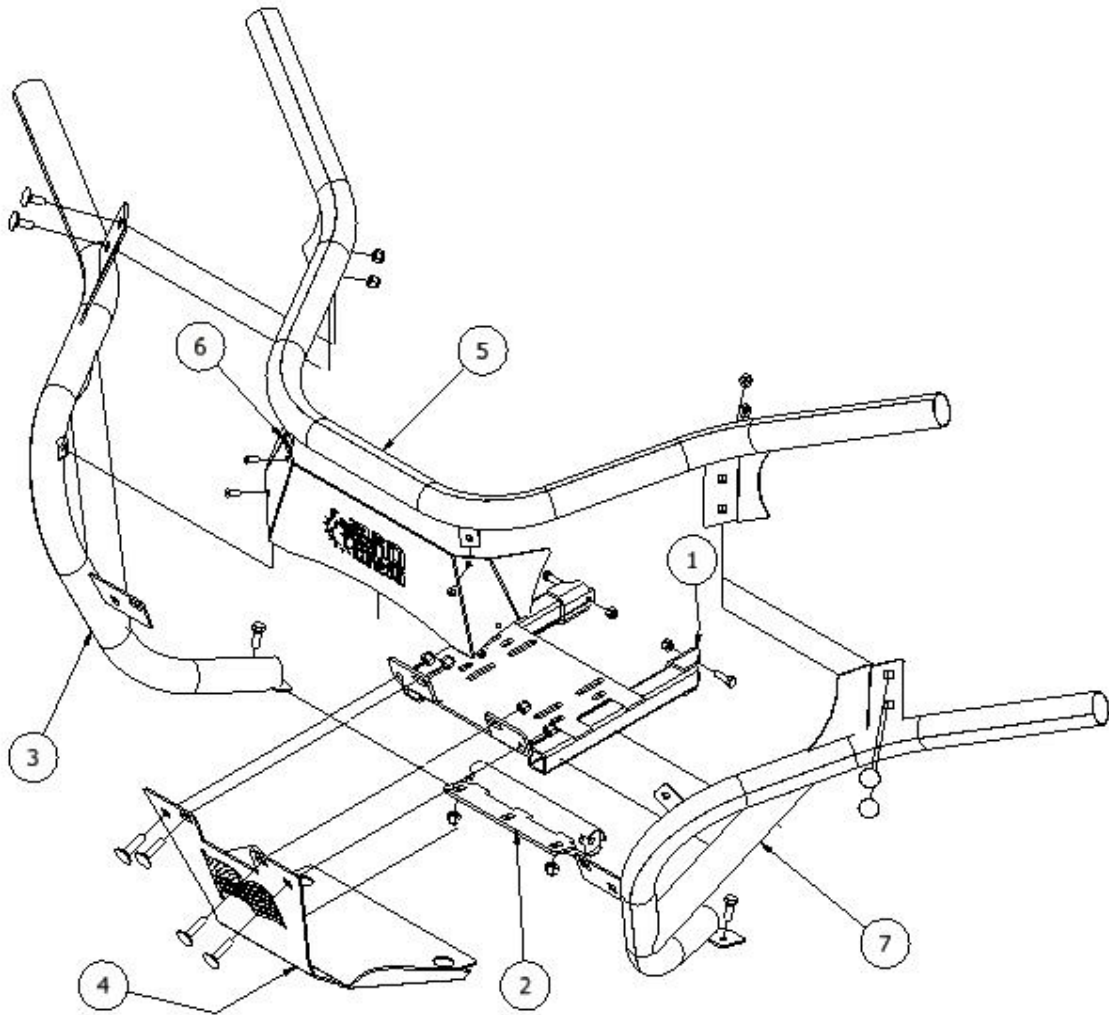
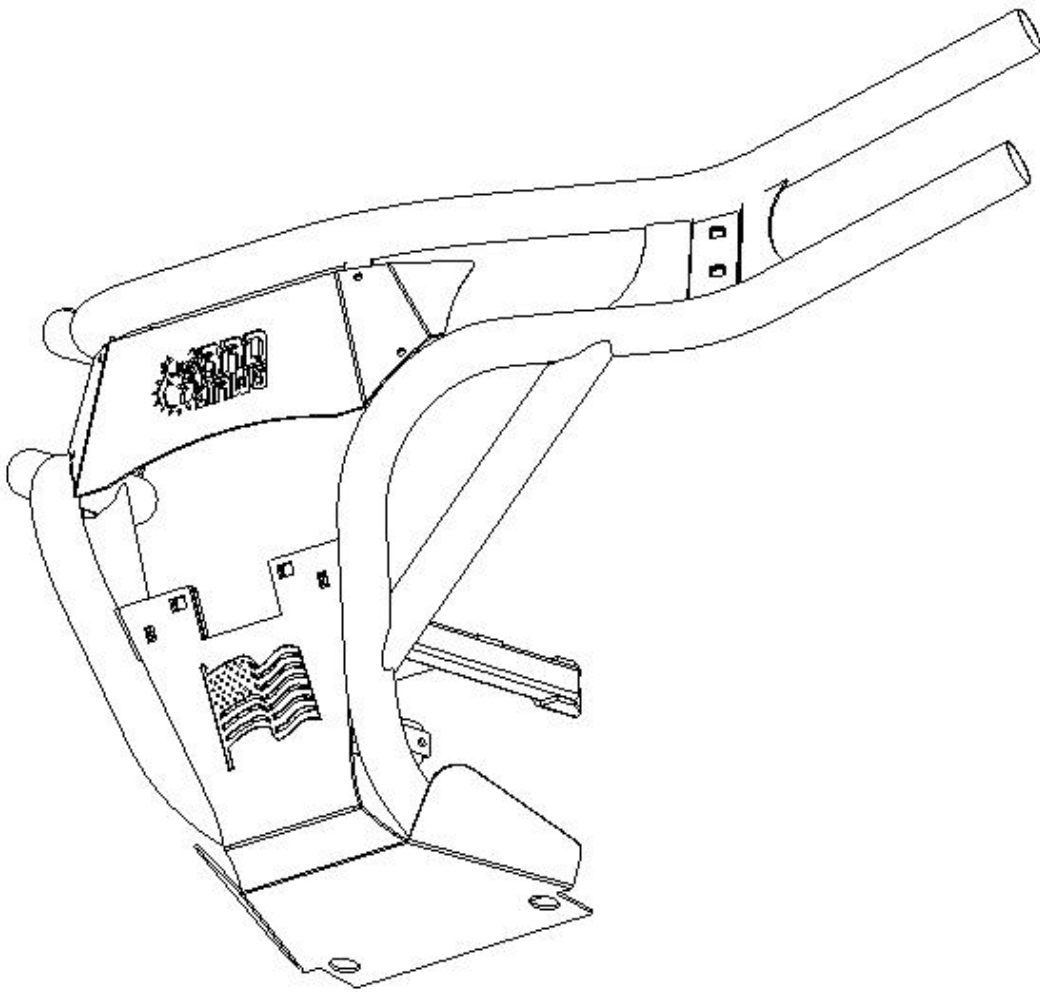

Figure 1.
FIGURE 2
Install the upper portion of the Skid Plate (item 4) along with the upper portion of the Side Tubes and secure them together with bolts (B1) according to the illustration (figure 1.). The Side Tube brackets mount in-between the Skid Plate and the Winch Plate (figure 2.).
Align the mounting holes of the Top Rail (item 5) with the corresponding holes of the Left and Right Tubes (items 3, 7) using bolts (B1), according to the illustration (figure 1).